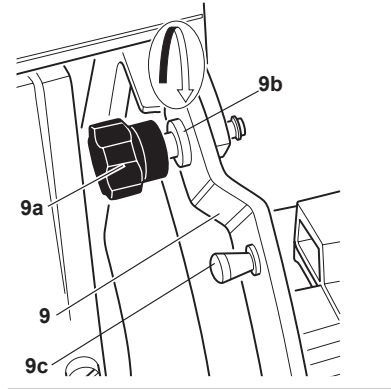

Figure 12-2
10. Close the knife guard (9). Loosen, but do not remove, the top and bottom knobs (9a) on the knife guard (9) (Figure 12-2).
12. Tighten the top and bottom knobs (9a) on the knife guard (9).